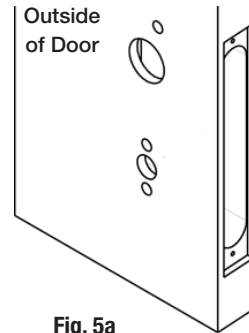

Fig. 5a
- Feed wires through 1-5/16" diameter hole on INSIDE of door while installing lockbody. (Fig. 5a)
- Install, but do not tighten two (2) #12 x 1" combination screws through lockbody. (Fig. 5a)